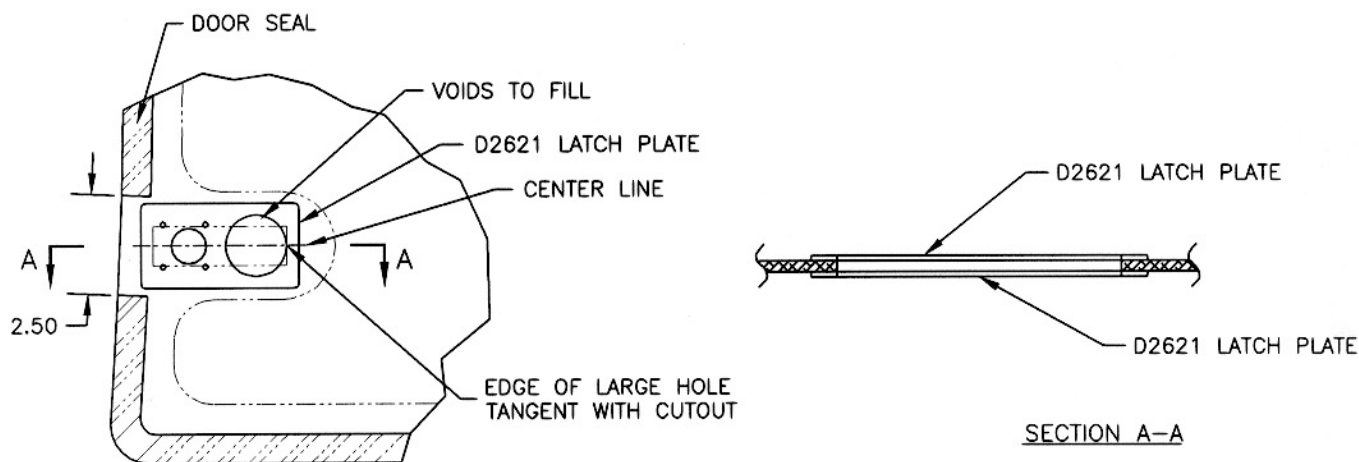

FIGURE 1: TYPICAL DOOR CUTOUT
2. REMOVE 2.5" (MAX) OF SEAL FROM EDGE OF THE DOOR PER FIGURE 1.
4. LINE UP THE INSIDE EDGE OF D2621 LATCH PLATE WITH THE EDGE OF LARGER LATCH HOLE AS SHOWN IN FIGURE 1. MAKE SURE THE D2621 LATCH PLATE IS CENTERED ON THE LINE CREATED AT STEP 3.
8. INSTALL D2621 LATCH PLATES ON BOTH THE INSIDE AND OUTSIDE OF THE DOOR AS SHOWN IN SECTION A-A USING 5 MIN. EPOXY OR PRC. ENSURE THAT THE LATCH PLATES LINE UP WITH THE RECTANGULAR CUTOUT FOR THE D2586 LATCHES. CLAMP LATCH PLATES IN PLACE. FILL THE VOID BETWEEN THE D2621 LATCH PLATES AS SHOWN IN FIGURE 1 WITH 5 MIN. EPOXY OR PRC. WIPE AWAY EXCESS EPOXY OR PRC FROM ALL AROUND THE LATCH PLATE INSTALLATION. ALLOW AT LEAST 15 MIN. BEFORE REMOVING CLAMPS AND PROCEEDING TO THE NEXT STEP.